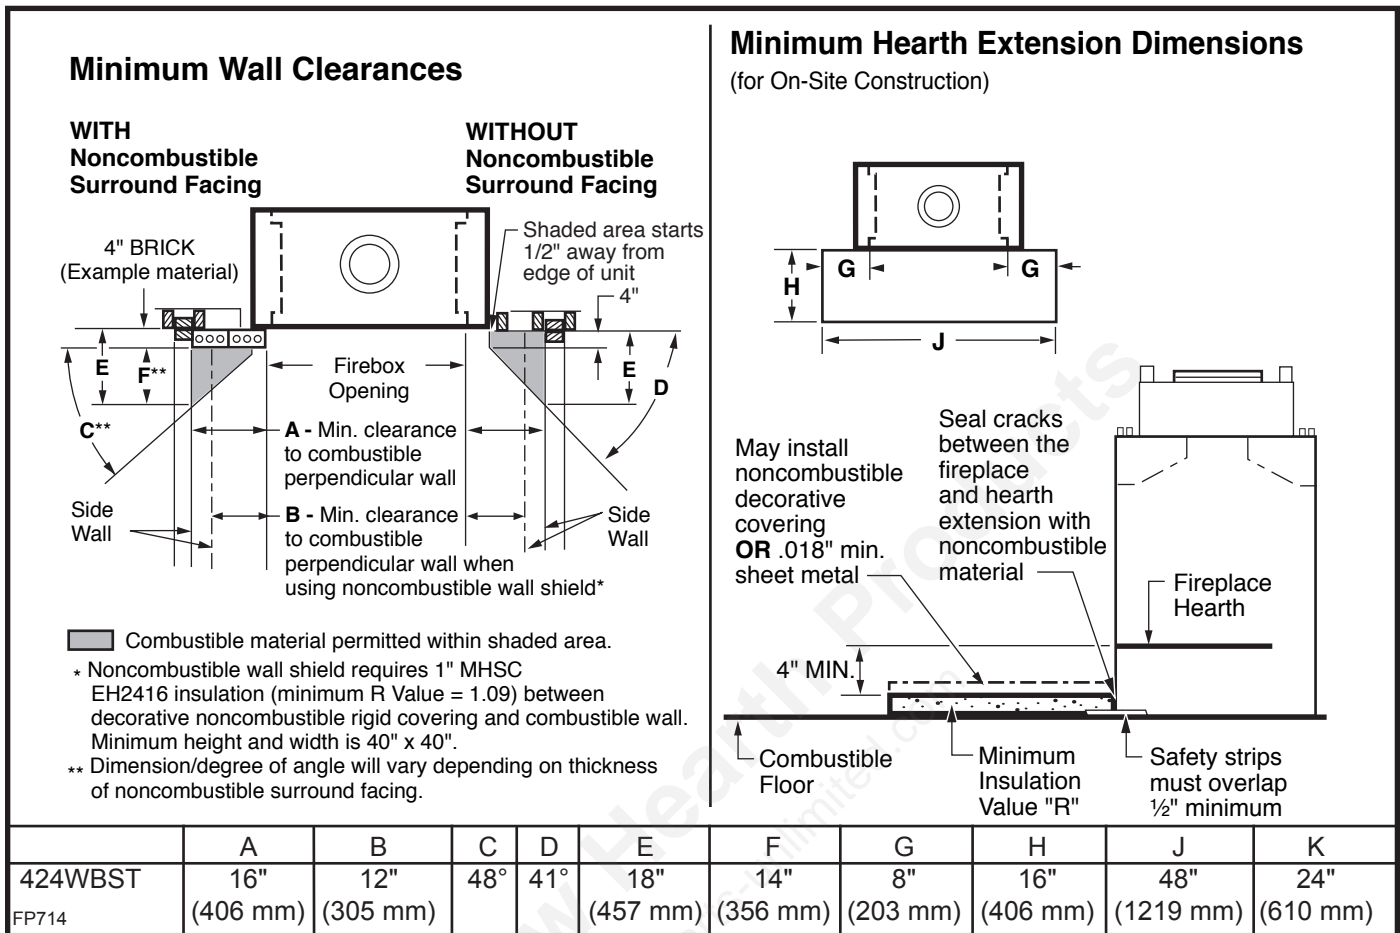

Fig. 24 Combustible side wall protection and hearth extension dimensions.
Often a decorative surround or vertical portion of the mantel is desired. If this is constructed of any combustible material, it must be within the safe zone indicated in Figure 24.
A hearth extension is required to protect a combustible floor in front of the fireplace. Refer to Figure 24 for minimum dimensions and mounting detail.
The hearth extension described in Figure 24 must be a durable noncombustible material with a minimum (total) Rt value of 1.09; refer to Figure 25 for examples. The overall height (above a combustible floor), depth and width must be as indicated, with the extension centered to the fireplace opening.
The top of the insulation material must be covered with a noncombustible decorative covering or a piece of .018" minimum sheet metal, to protect hearth extension material. (Fig. 24)
Secure the hearth extension to the floor to prevent shifting, using trim molding or other similar means at three (3) outer edges. Seal crack between the fireplace hearth and hearth extension with a noncombustible material. (Figs. 24 and 26)
**WARNING: HEARTH EXTENSION MUST BE INSTALLED IN ACCORDANCE WITH FIGURES 24 AND 25.**